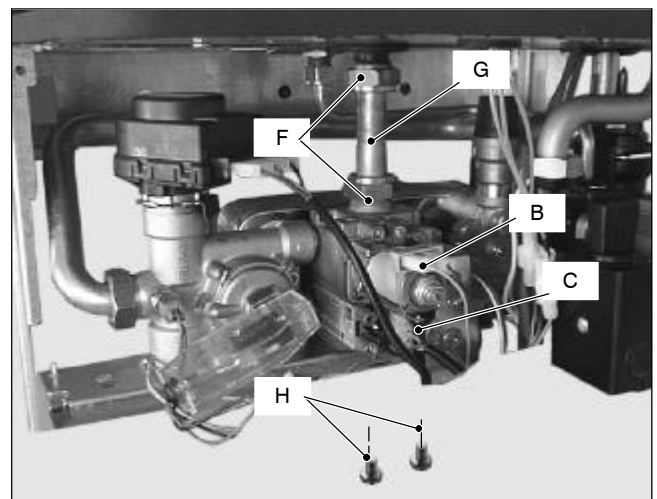

Fig. 46
- 2 Disconnect the connectors *B* (Fig. 46) from the modulating operator and measure the electrical resistance of the coil. Its electrical resistance value must be approx. $80 \Omega^*$.
- 2 Disconnect the electrical connector *C* (Fig. 46).
- 2 Disconnect the connectors *B* and *C* (Fig. 46).